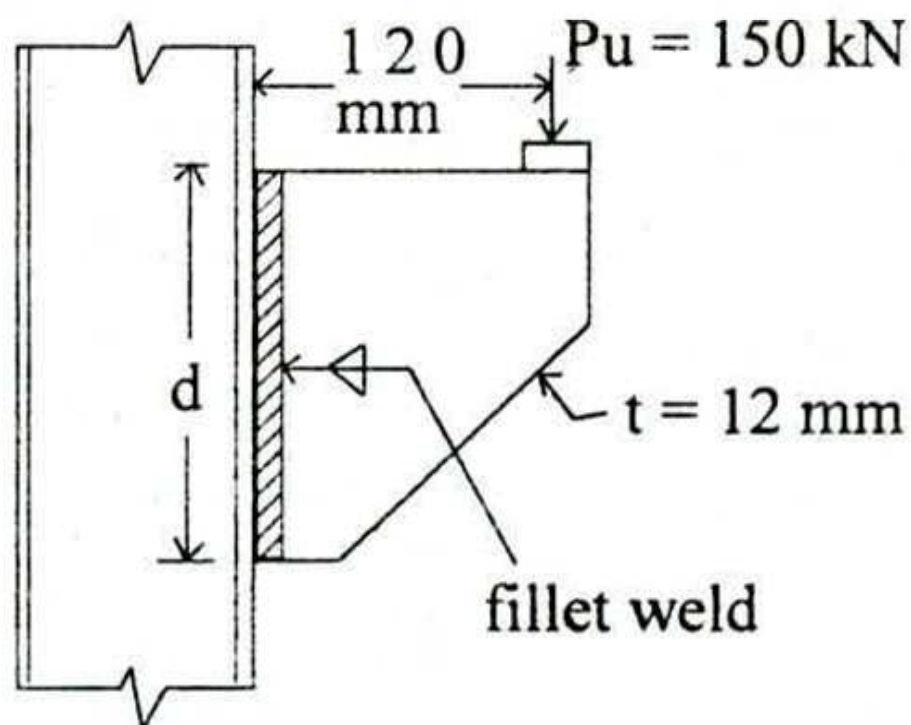

Fig. 8
- (b) A welded bracket connection is shown in Fig. 8. It supports a factored load of 150 kN at a distance of 120 mm from the face of the column. Design the fillet weld on two sides. Grade of steel = Fe 410, $f_y = 250$ MPa. 10